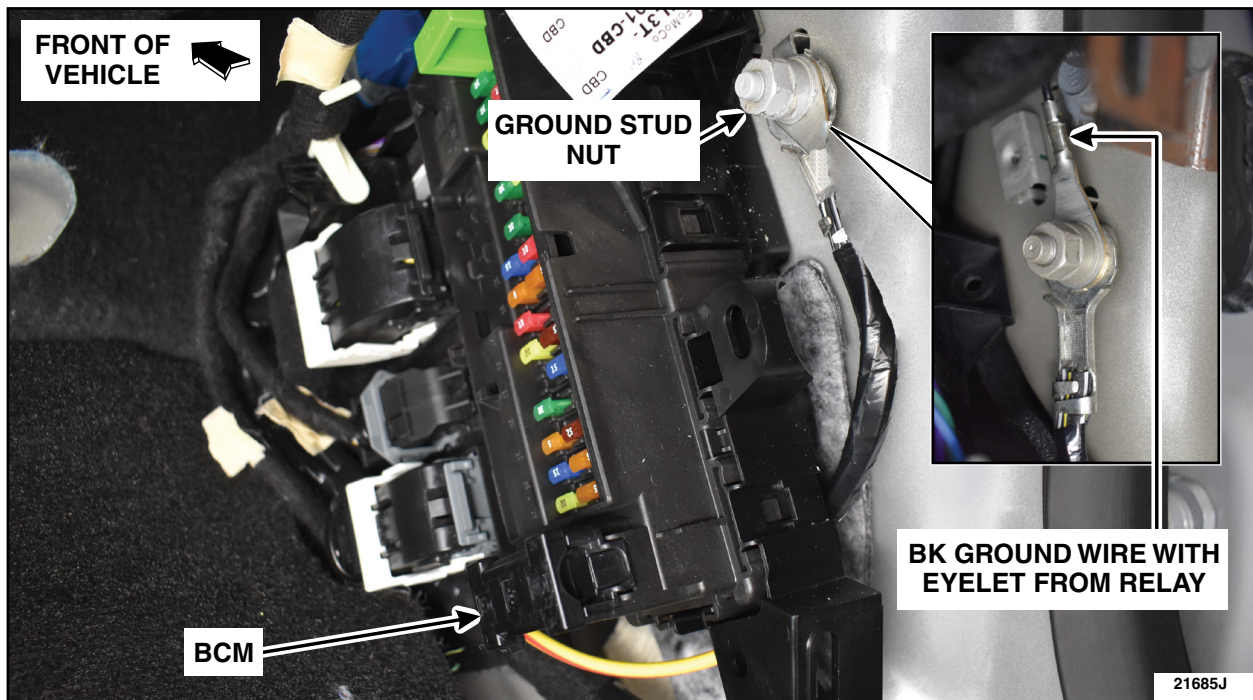

**FIGURE 8**
12. Install the green locking tab into the female end of C212. See Figure 8.